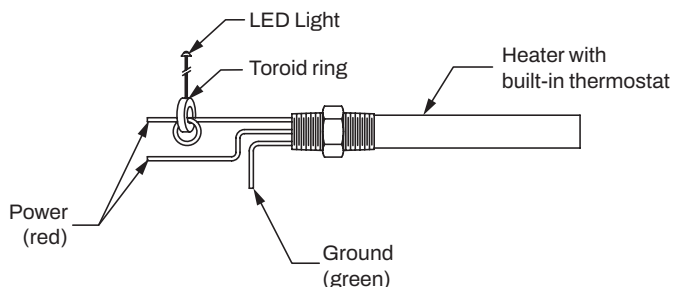

Figure 1 - Heater / Thermostat Wiring
6. Wrap one of the two red power leads around the toroid (copper winding ring) 1 or 2 times. See Figure 1.